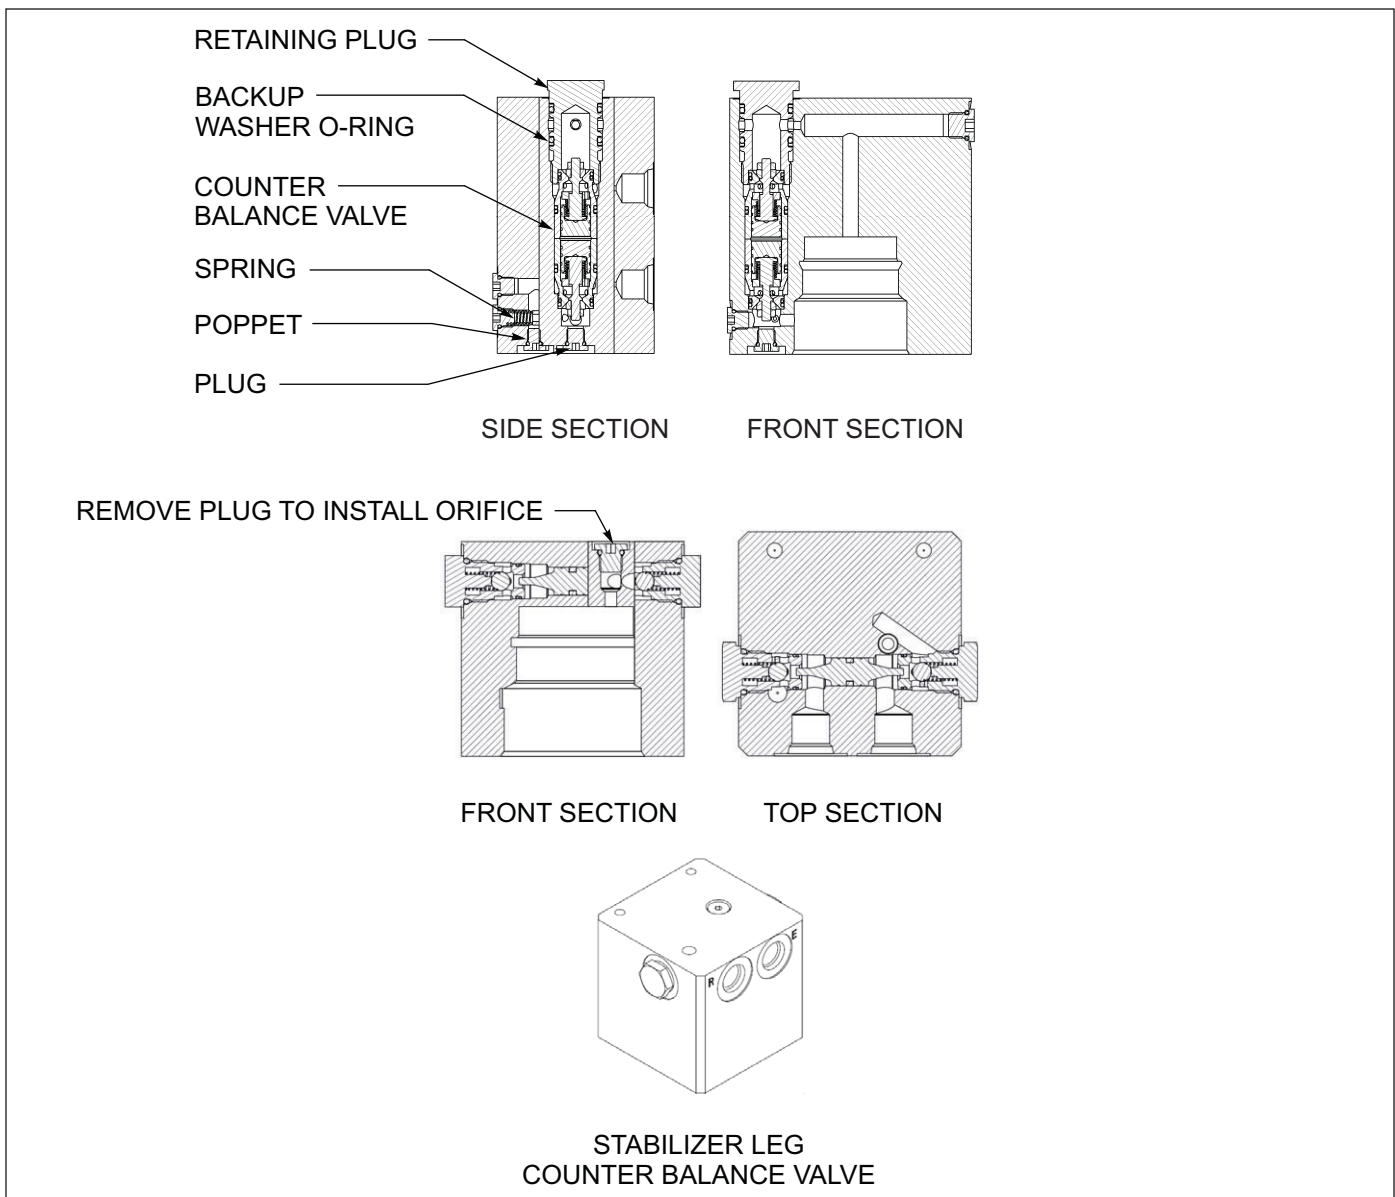

Figure 4-27: Stabilizer Leg Counter Balance Assembly
2. Remove retaining plug (See *Figure 4-27*.)